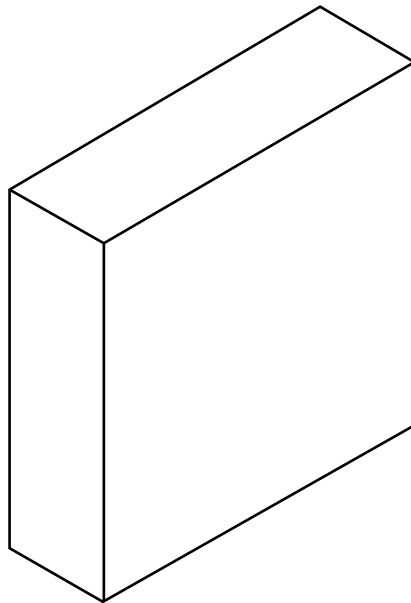

Fig. 4
- (b) Four Styrofoam wheels are to be added to the body of the toy car. The wheels are to be cut from blocks of 10 mm thick Styrofoam shown below. Sketch the shape of **one** wheel on the block of Styrofoam shown in Fig. 4.